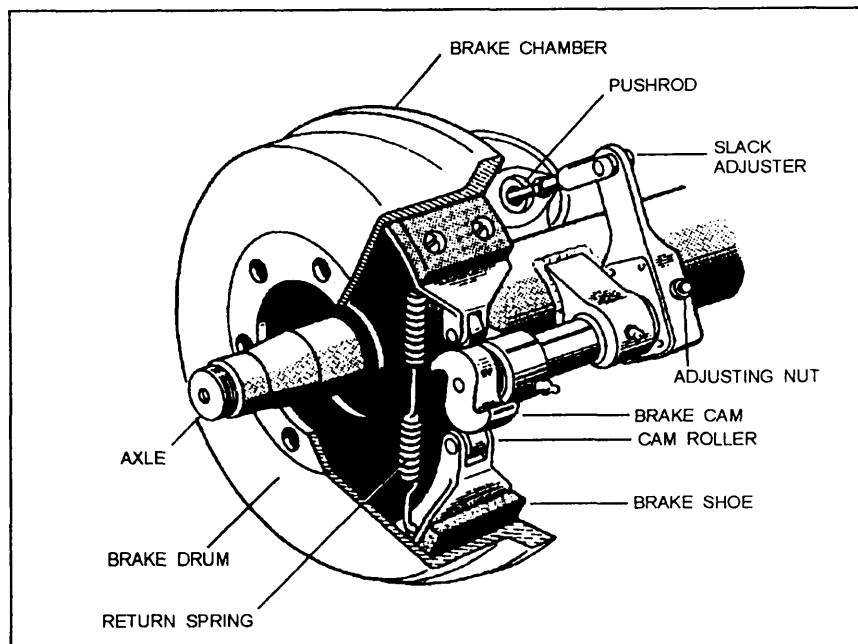

Figure 7-10.—S-cam air brake.
**S-CAM AIR BRAKES.**— When the air brake pedal is pushed, air is let into each brake chamber (fig. 7-10). Air pressure pushes the rod out, moving the slack adjuster, thus twisting the brake camshaft. This action turns the S-cam that forces the brake shoes away from one another and presses them against the inside of the brake drum. When the brake pedal is released, the S-cam rotates back and a spring pulls the brake shoes away from the drum, allowing the wheels to roll freely.